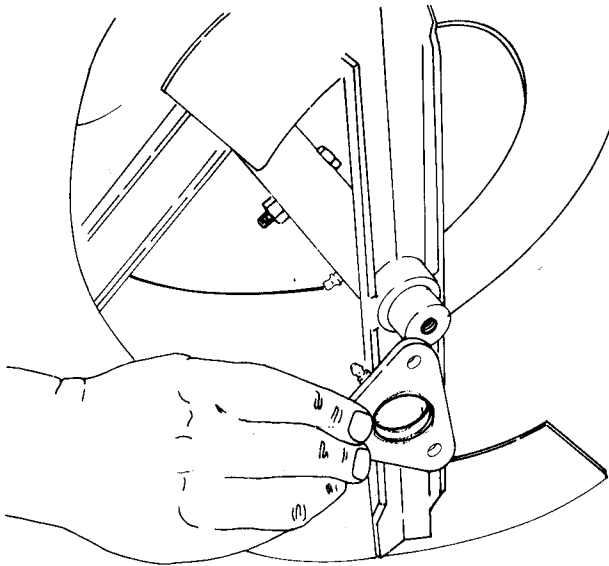

FIGURE 3.14 — GREASE FITTINGS ON BEARINGS
**NOTE:** When reinstalling the auger-impeller assembly, make sure the grease fittings on the shaft bearings are positioned facing the front of the blower housing where they can be serviced. (Figure 3.14).